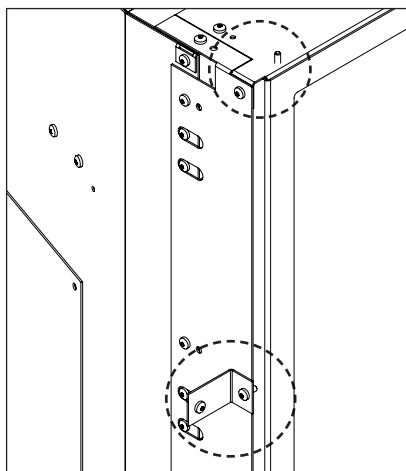

Figure 37: Panel Bracket Installed and Pin Location
1. Using the supplied hardware install a Trimmable Panel Bracket, on its short leg, onto each side of the stove using a T-20 Torx screwdriver. See Figure 37 for the screw location and bracket orientation.
2. Install the Trimmable Panel, **WITH THE FLANGES FACING OUT**, onto the Side Extensions and in front of the Panel Brackets by hooking the Panel's top flange onto the alignment pins on top of the Top Extension (See Figure 37).